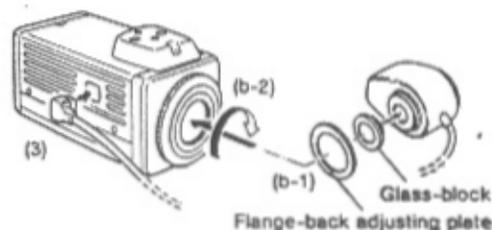

Fig. 3
- A glass-block and a flange-back adjusting plate are provided with the WV-LA608 and WV-LA1208. (b-1) Insert a glass-block by rotating clockwise onto the lens and put a flange-back adjusting plate on the lens. (b-2) Then mount the lens onto the lens mount of camera by rotating them gently clockwise until they stop. Then turn the lens furthermore with a little bit stronger torque to the desired position. (Fig. 3)